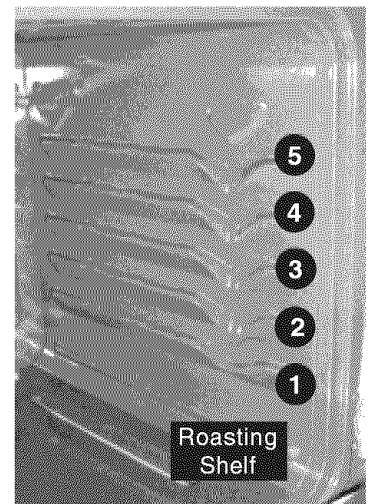

Fig. 2
3. When using 2 oven racks at the same time, place in oven rack positions 1 & 4 for best results (See Fig. 2)